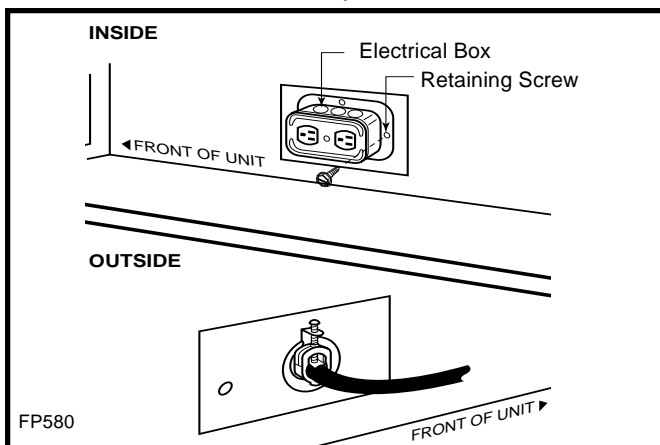

Fig. 8 EB-1 receptacle.
1. Unscrew the retaining screw from the EB-1 base plate and remove the EB-1 assembly from the appliance. (Fig. 8)
4. Feed the supply line in through the EB-1 opening in the side of the appliance and then through the back of the EB-1 assembly. (Fig. 8)